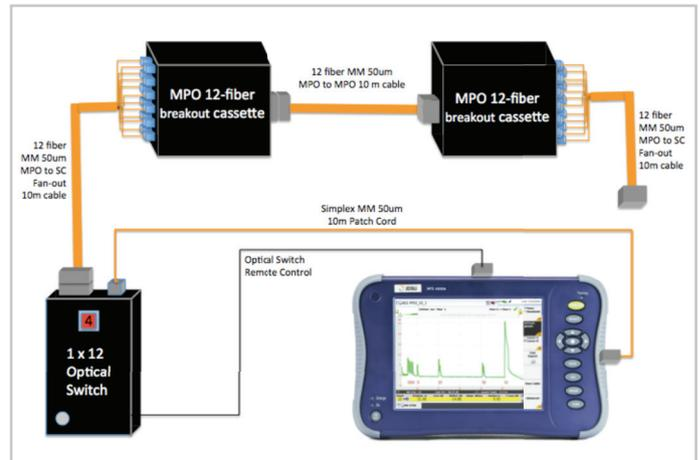

Figure 7. Test setup for Hi-Res link testing with breakout cassettes
- b. The EVO-A modules from VIAVI offer integrated EF-compliance for T-BERD/MTS 8000 (v2) and 6000A v2 platforms. This eliminates the need for an external EF mode conditioner, which simplifies implementation by test technicians and ensures improvements in loss accuracies that EF compliance provides (see Figure 7 later in this document).